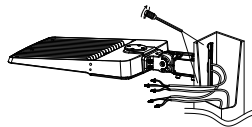

Figure 3-1-2
Step2: Fix the fixture on the pole after passing the input wire of the fixture through the pole and then connect the input wires to the mains properly, Figure 3-1-2;